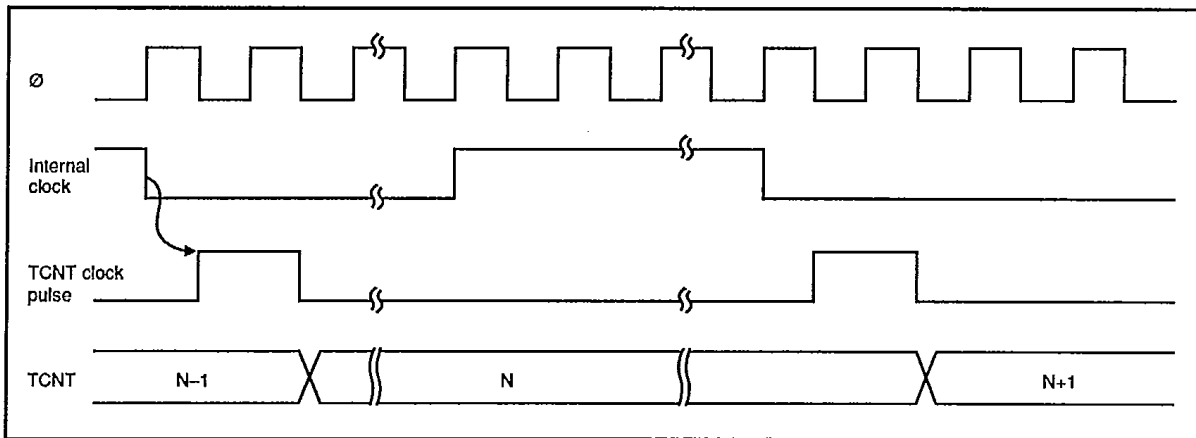

Figure 8-2. Count Timing for Internal Clock Input
**Internal Clock:** Internal clock sources are created from the system clock by a prescaler. The counter increments on an internal TCNT clock pulse generated from the falling edge of the prescaler output, as shown in figure 8-2. Bits CKS2 to CKS0 of the TCR can select one of the three internal clocks ( $\emptyset/8$ ,  $\emptyset/64$ , or  $\emptyset/1024$ ).